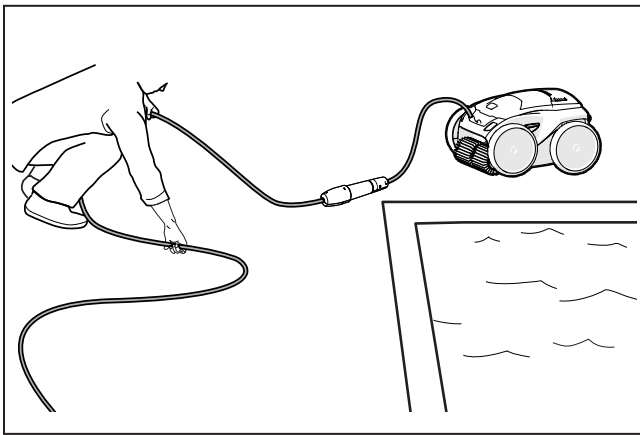

Figure 24. Untangle the Floating cable
- Starting at the cleaner head, remove all coils and tangles from the cable (Figure 24). Lay the cable in the sun to loosen any tangling memory.